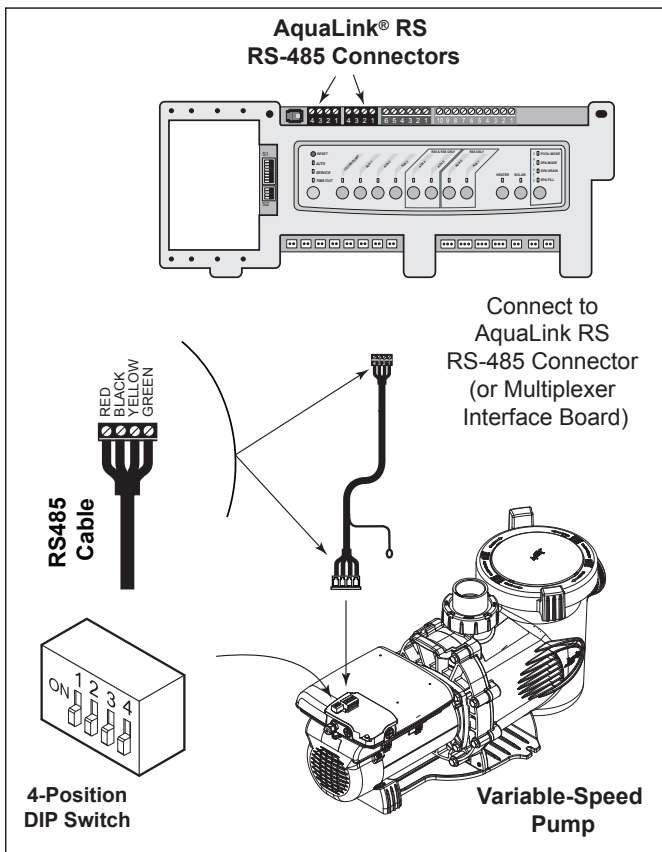

Figure 5A. Wiring AquaLink RS Controller or AquaLink PDA to ePump, Regal Beloit Motor
3. Unplug the RS-485 connector from the ePump and attach the four (4) wires in the RS-485 cable to the RS-485 connector. Match the wire colors with the connector positions as follows: 1-red, 2-black, 3-yellow, and 4-green. See Figures 5A and 5B.
6. Slide dip switches 1 and 2 down, so they are in the OFF position. See Figure 5A and 5B.